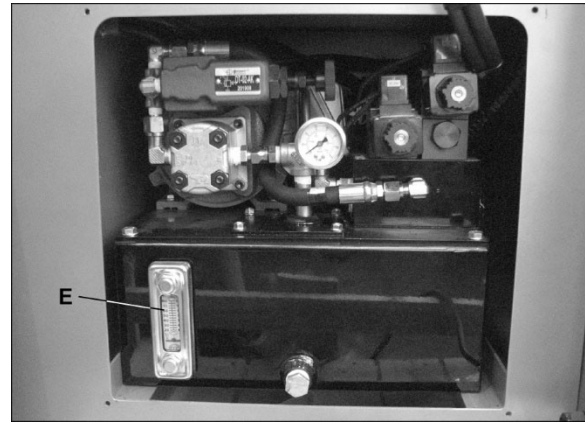

Figure 11-3: hydraulic oil servicing
3. Check oil level (E, Figure 11-3). If level is below yellow (upper) line, the reservoir should be filled.